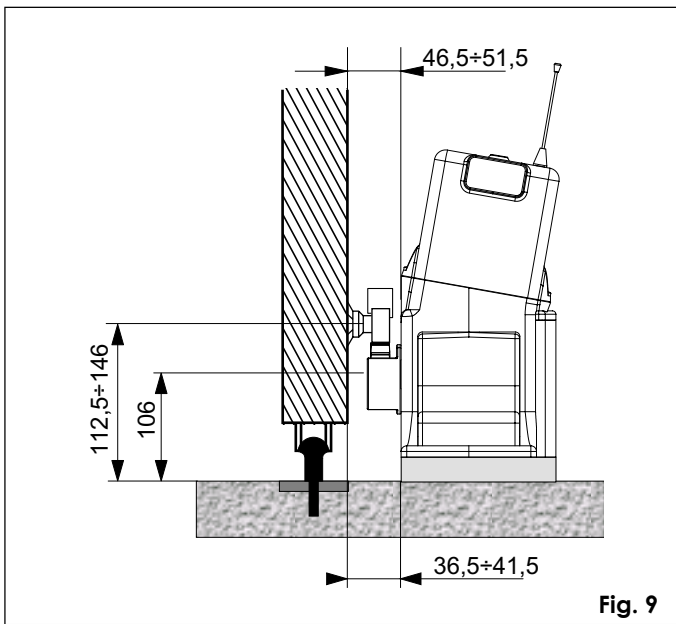

Fig. 9
- Adjust the distance of the operator from the gate by referring to fig. 9.